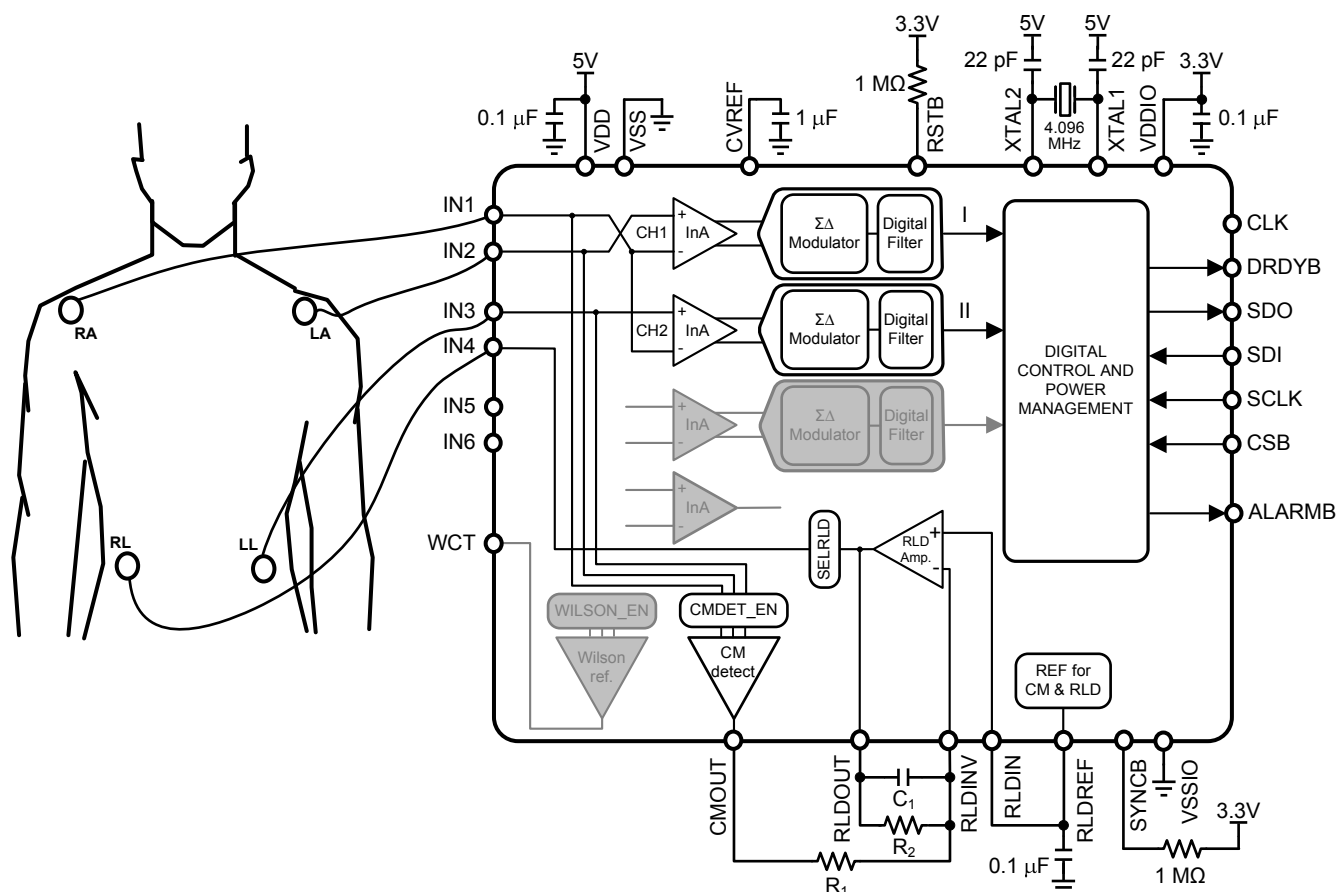

Figure 32. 3-Lead ECG Application
A 3-Lead ECG system can be implemented using two channels as shown in Figure 32. In this example, the right arm (RA), left arm (LA), left leg (LL) and right leg (RL) are connected to the IN1, IN2, IN3 and IN4 pins respectively. The ADS1293 uses the Common-Mode Detector block to measure the common-mode of the patient's body by averaging the voltage of input pins IN1, IN2 and IN3, and uses this signal in the right leg drive feedback circuit⁽¹⁾. The output of the RLD amplifier is connected internally to the IN4 pin, which is connected to the right leg electrode, to drive the common-mode of the patient's body. The chip uses an external 4.096MHz crystal oscillator connected between the XTAL1 and XTAL2 pins to create the clock sources for the device.